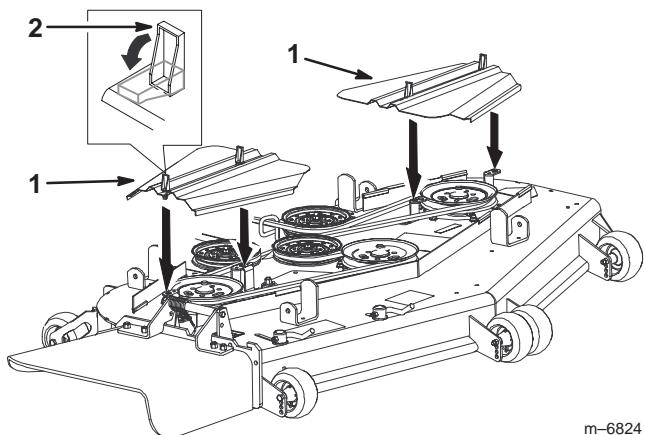

Figure 74
3. Remove the belt covers (Fig. 74).
10. Install the belt covers and close the latches (Fig. 74).